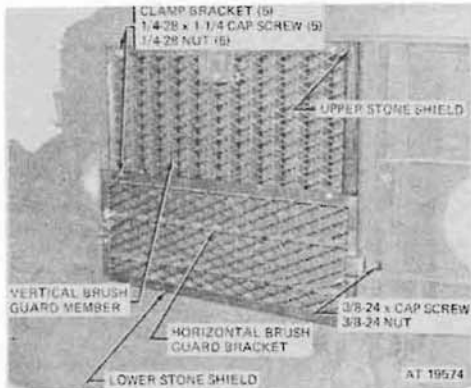
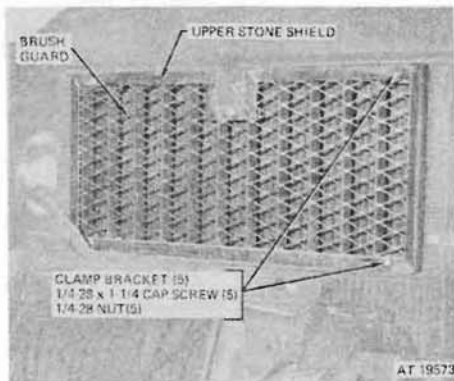

Figure 427.11. Stone shield kit (11609946-1)—installed.
Figure 427.12. Stone shield kit (11609946-2)—installed.
b. Stone shield kit (11609946-1)(fig. 427-11) is installed on trucks without winch. This kit contains upper and lower stone shield assemblies, and necessary mounting hardware. The upper stone shield assembly is clamped to the upper center section of brush guard. The lower stone shield assembly is attached to upper stone shield and side of right and left-hand headlight guards.
c. Stone shield kit (11609946-2)(fig. 427.12) is installed on truck equipped with a front winch. This kit contains only the upper stone shield assembly and necessary mounting hardware. The lower stone shield assembly is not required for this truck application. (Fig. 427.11)
b. Install lower stone shield assembly. Remove and discard existing cap screw and nut, attaching each end of top horizontal brush guard bracket to brush guard. Position lower stone shield assembly against brush guard. Attach top horizontal brush guard bracket and bracket on each end of stone shield to brush guard with 3/8-24UNF-2A x 1 1/4 cap screws and 3/8-24UNF-2B self-locking nuts provided with kit. Attach top member of lower stone shield to upper stone shield with two clamp brackets, 1/4-28UNF-2A x 2 cap screws, and 1/4-28UNF-2B self-locking nuts as shown in figure 427.11.